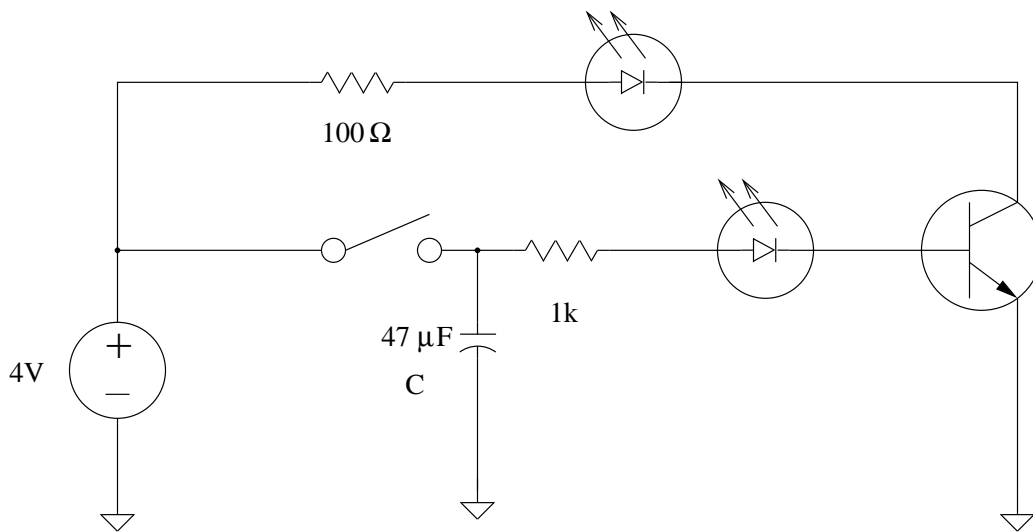

Figure 16: NPN transistor circuit with LED current indicators
2. Now build the circuit of Figure 16, which uses two LEDs so that we will be able to “see” the current a bit better! Be sure to observe the capacitor polarity.